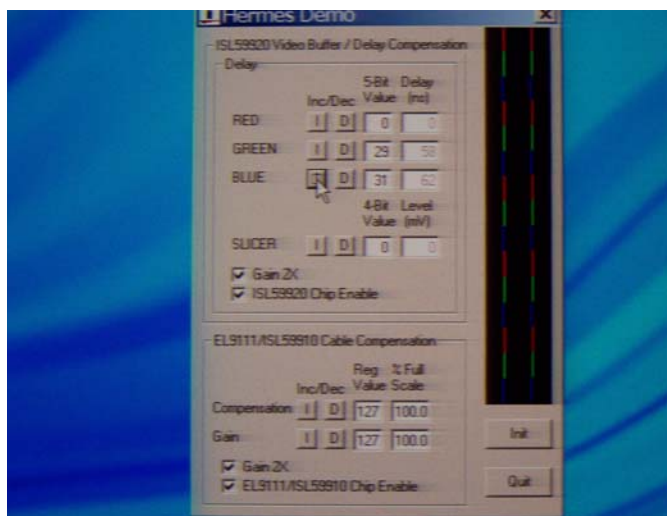

FIGURE 16. 500' WITH THE ADAPTER BOARD
3. Cable adapter boards, see Figures 16 and 17, may be used to rearrange the color pairs with existing systems to get better color performance with the KVM extender at 1500ft to optimum color pair assignments. When an added deskew IC is not used then there will be blue color error but generally will be small. This will give a low cost solution with good performance to about 1300ft and reduced performance at 1500ft on Cat 6 cable.